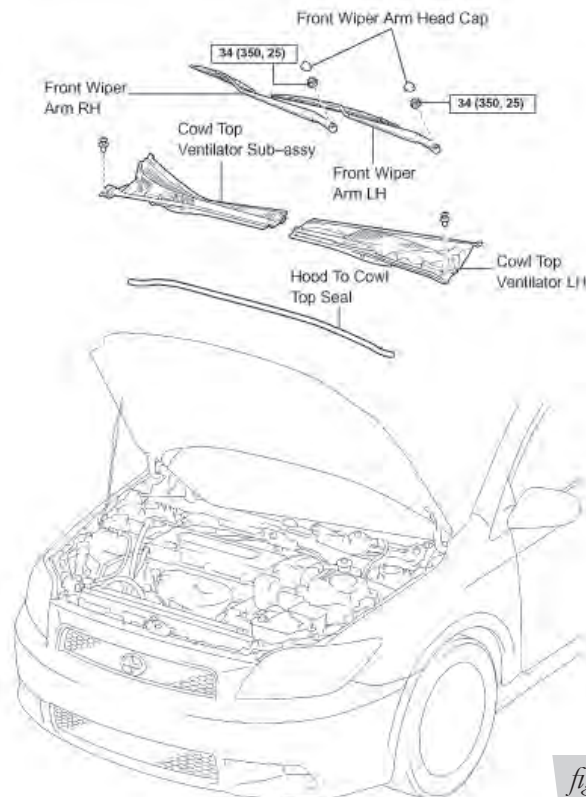

fig. 2
1. Remove cap from the wiper arms, mark the position of the arm to the inner spindle. Unthread both wiper arm nuts and remove both arms from the vehicle (fig. 2).
2. Carefully remove the hood cowl seal. Remove all push-pins from the cowl and remove left and right cowl portions (fig. 2).